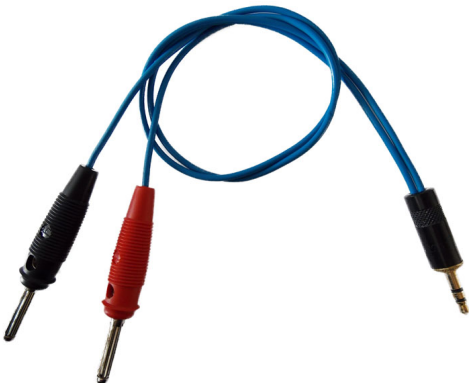

Figure 8-3: Adapter for the connection of a walkie-talkie to the *CPC 100*
- **Optional:** Connect a walkie-talkie, which is used as a receiver, to the *CPC 100*'s VDC input, by using an adapter as shown in Figure 8-3 below.